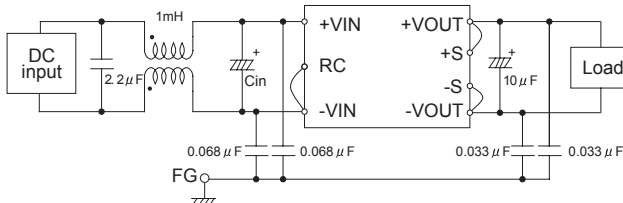

Fig.3.1 Recommended external input filter
(3) Recommendation for noise-filter
- Install an external input filter as shown in Fig.3.1 in order to reduce conducted noise. C_{in} is shown in Table 2.1.